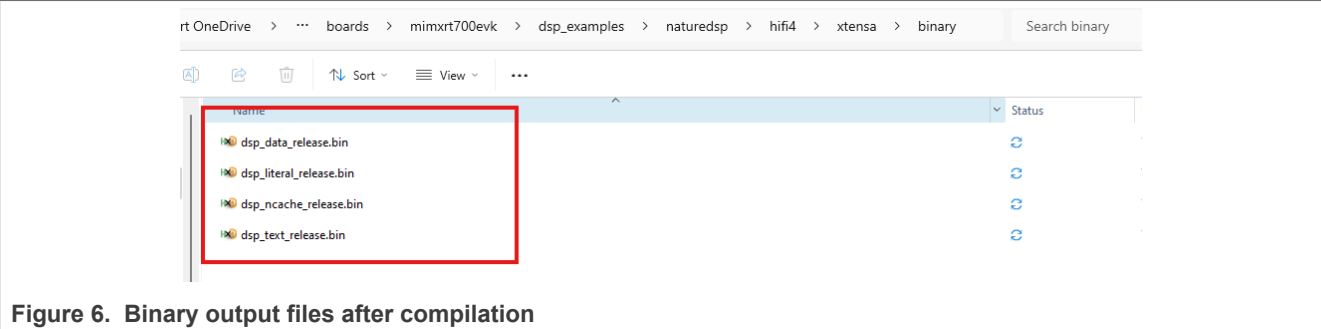

Figure 6. Binary output files after compilation
- After compiling with the provided linker file, four binaries are generated in the dsp_naturedsp_hifi4 project folder, as shown in Figure 6. To ensure that both data and test sections are placed in SRAM partition 14, verify the memory allocation by checking the map file of the dsp_naturedsp_hifi4 project in the Xplorer IDE.